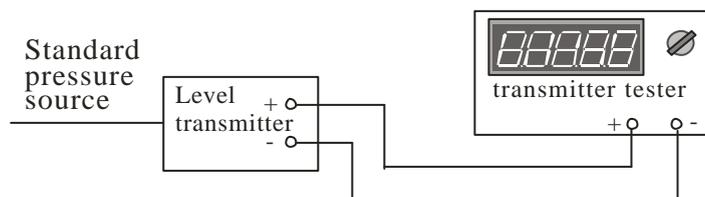

Fig. 7-1 Wiring Diagram
A. Regulate system shown as the Fig. 7-1: